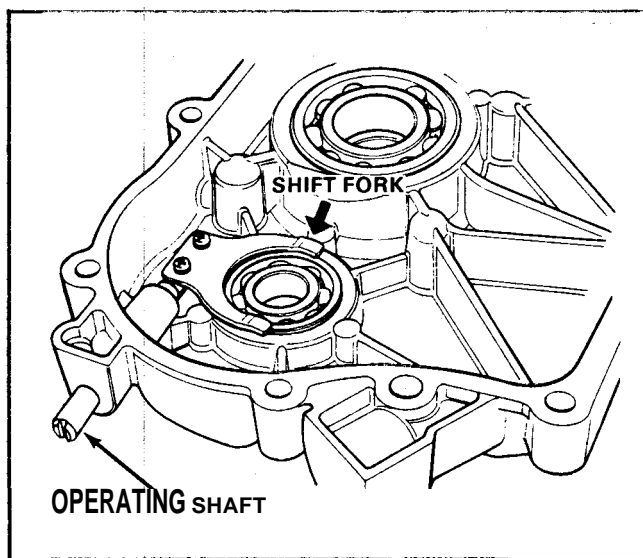

Figure 97
4. Install the governor operating shaft in the crankcase side cover. Mount the governor shift fork to the shaft with two mounting screws. Use a thread locking compound, e.g. Loctite 242, on the threads of the screws. See Figure 97.